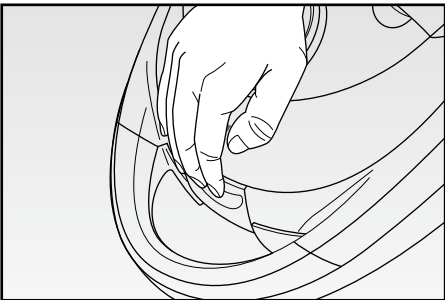

Fig. 8
- open the bag compartment by pushing the relevant lever outwards (FIG. 8).